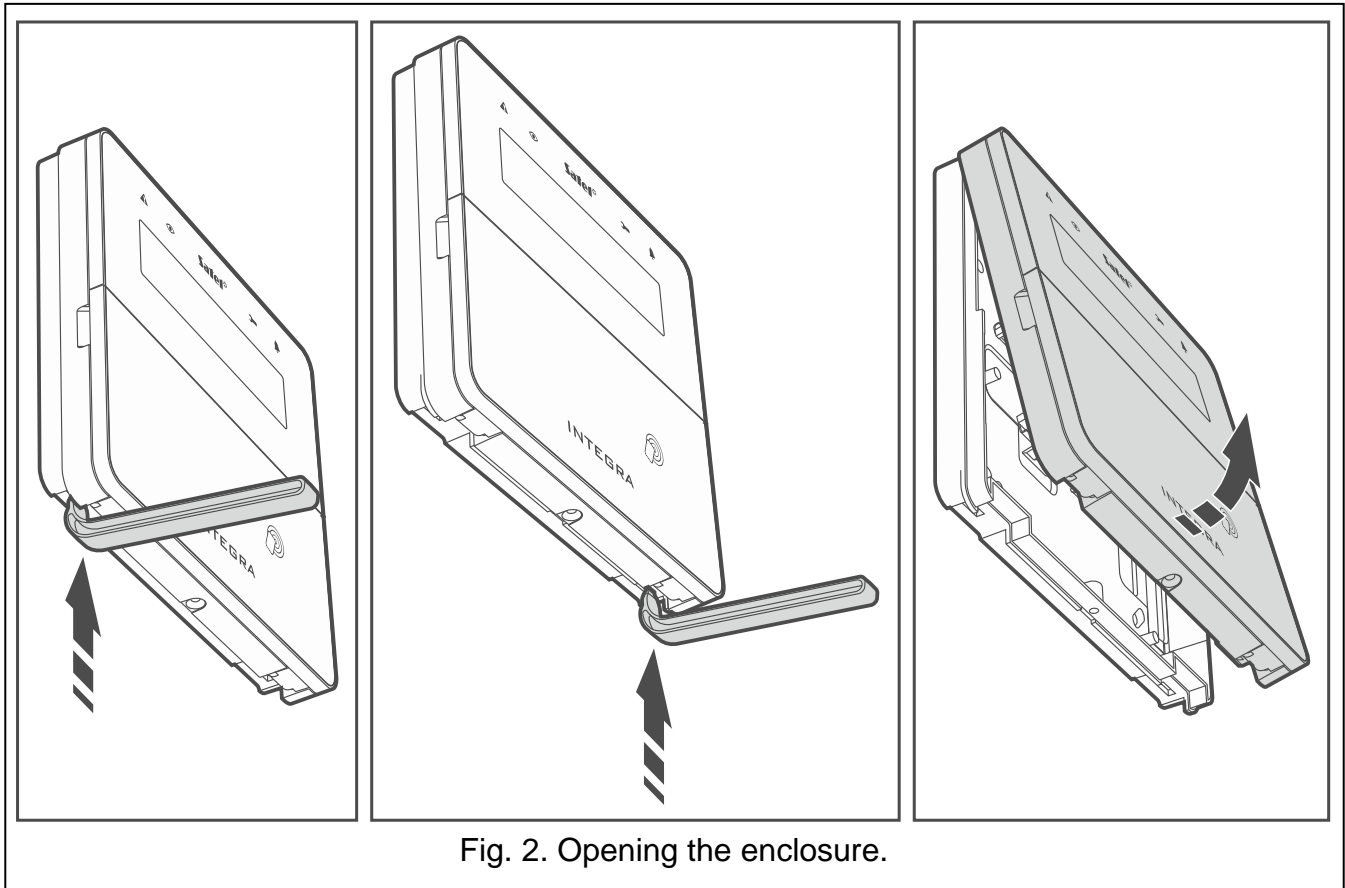

Fig. 2. Opening the enclosure.
1. Open the keypad enclosure (Fig. 2). The enclosure opening tool, shown in the illustration, is included in the keypad delivery set.
6. Open the keypad enclosure (Fig. 2).